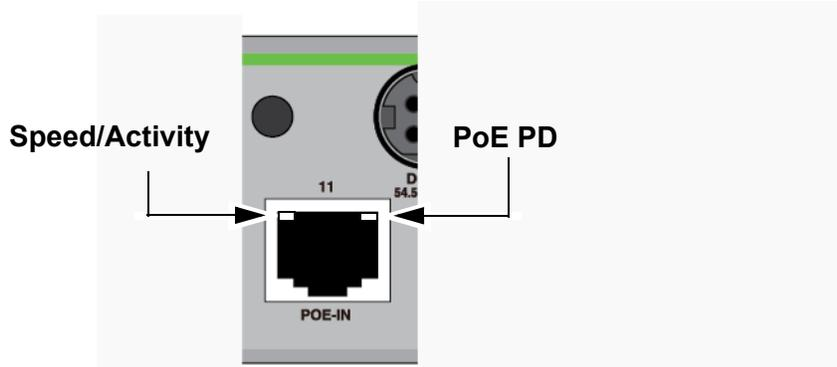

Figure 9. LEDs for Port 11 on the GS980EM/11PT Switch
**Port 11 LEDs** The LEDs for port 11 are identified in Figure 9.